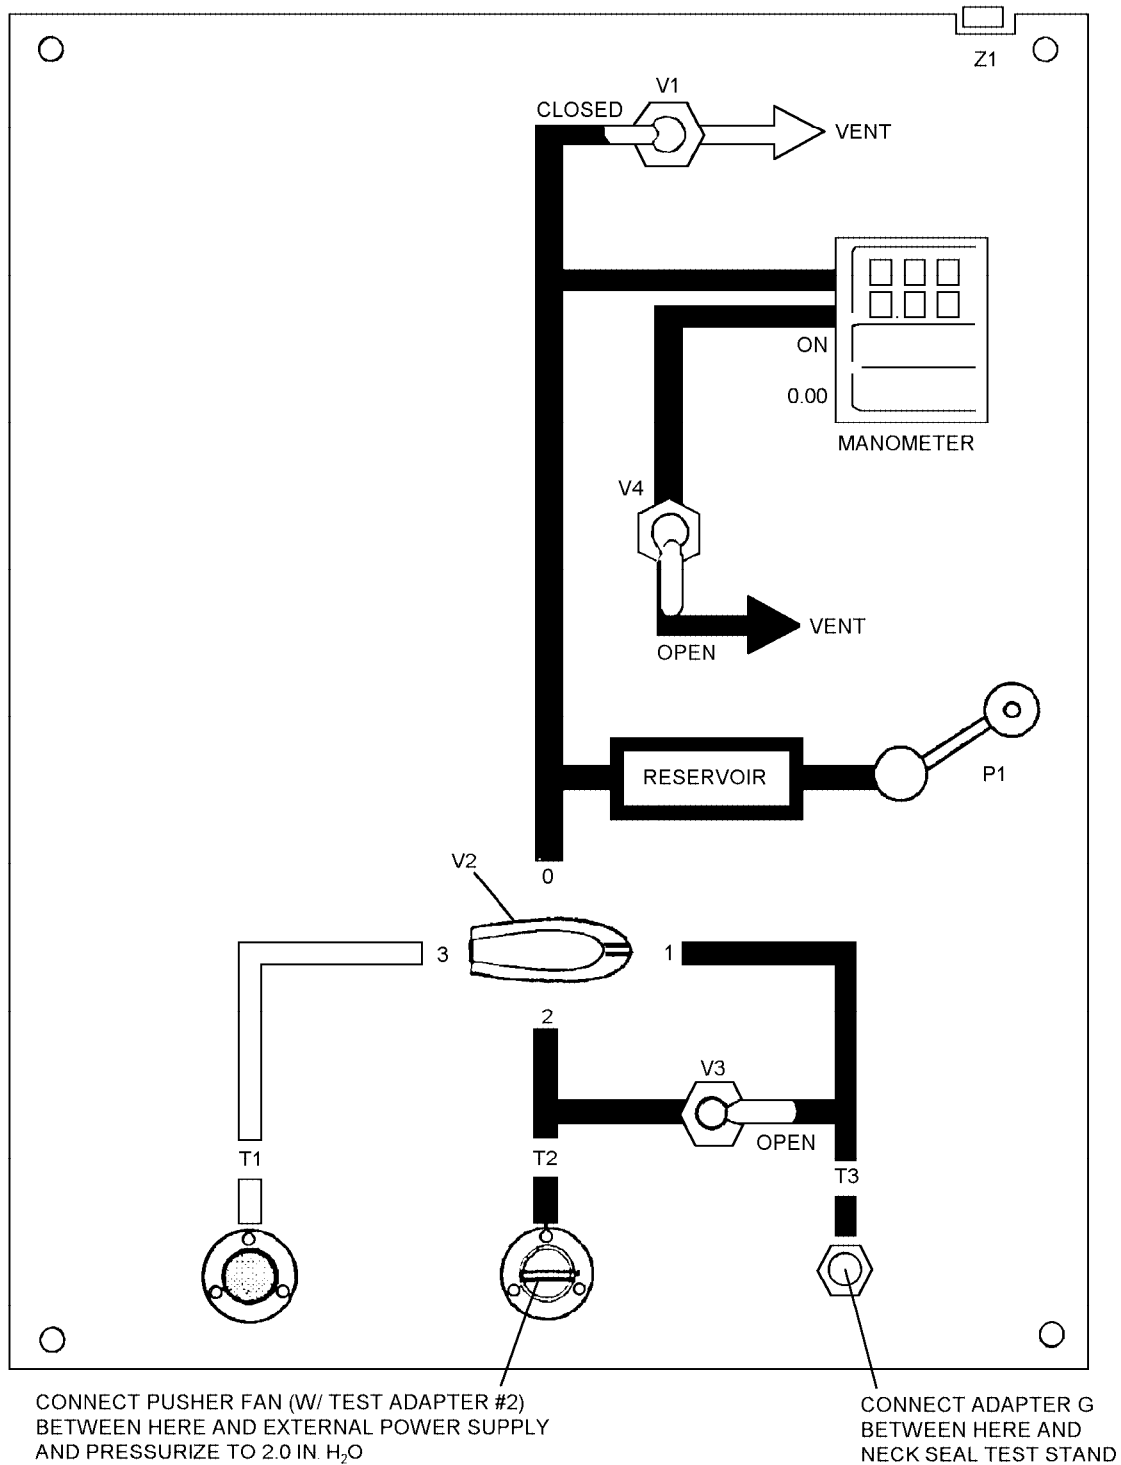

Figure 3-45. Test Panel Configuration - Mask Assembly - Overall Leakage Test
3. Ensure adapter G is correctly fitted between T3 and neck seal test stand port (figure 3-45).